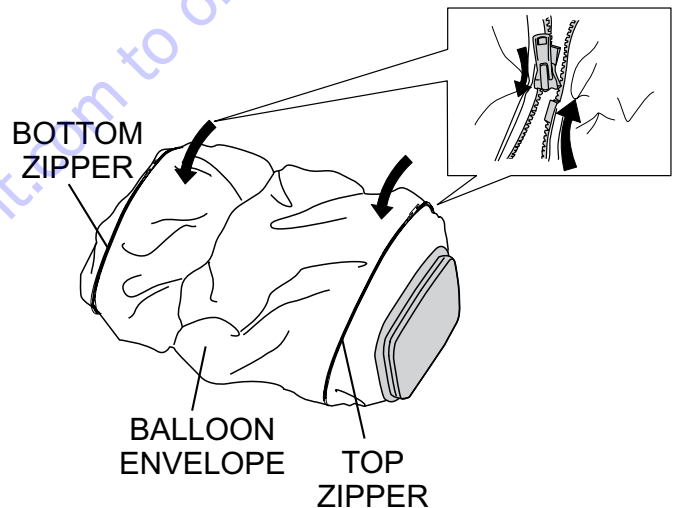

Figure 33. Zipping the Balloon Envelope
4. Zip up the zipper (Figure 33) at the top and bottom of the balloon envelope (cover).